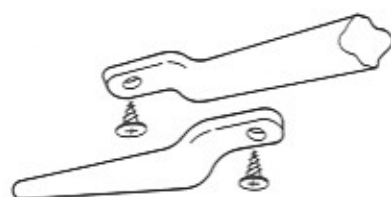

Figure 31
Step 3. Using a 5/16" open end wrench, loosen but do not remove three acorn nuts along the bottom glass retainer (Figure 31).
Step 4. Remove remaining 9 acorn nuts (3 on each vertical side retainers and 3 on the top retainer) (Figure 31).